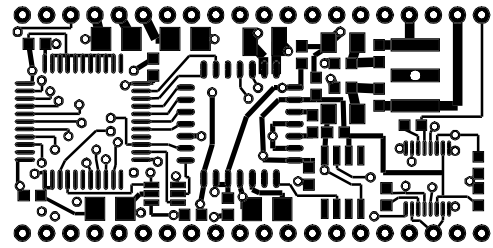

Figure 5. Top Layer ( Not to scale ).
- The top layer is shown in figure 5.